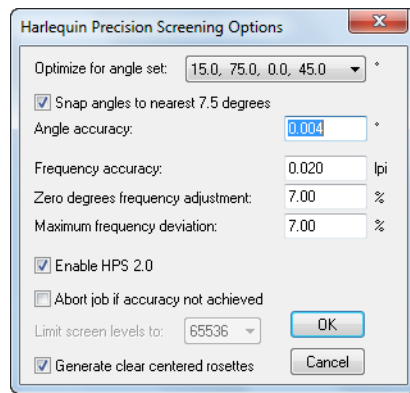

Figure 6.6 Harlequin Precision Screening Options dialog box
- When using HPS, the RIP produces the number of gray levels required to attain the specified accuracy of screening, as set in the HPS Options dialog box, shown in Figure 6.6, page 167.